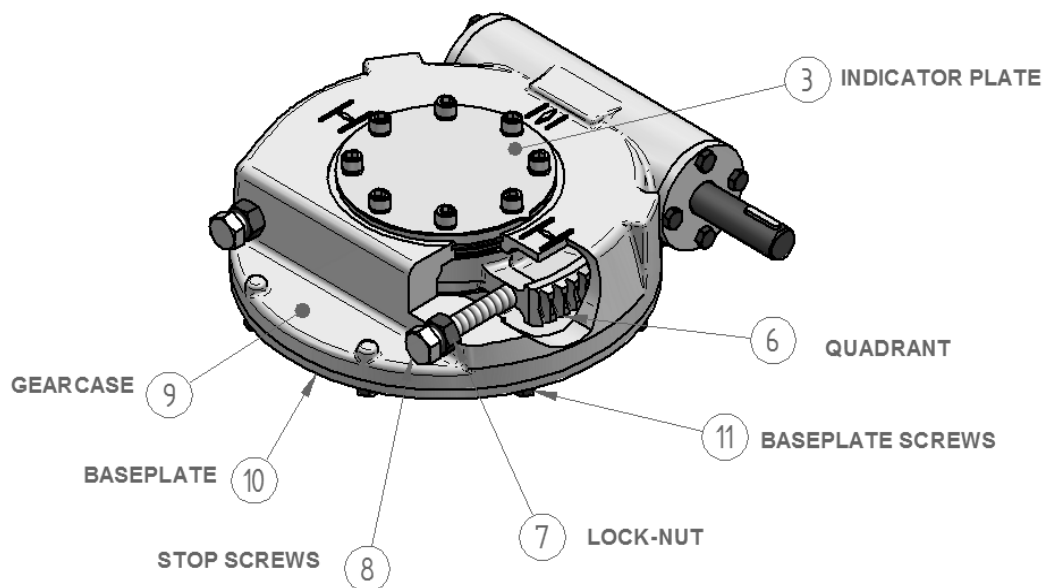

Figure 6 - Setting Stop-Bolts
Close the valve, using the actuator where applicable. Referring to Figure 6, use the indicator plate (3) pointer as an indication of position.